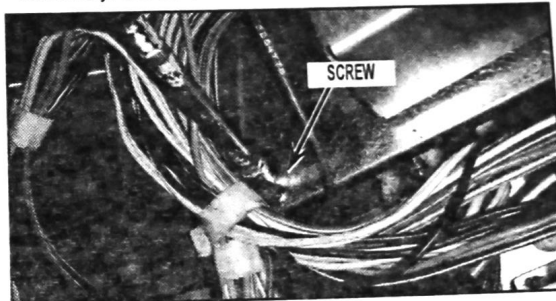

FIGURE 5
7. Remove the screw securing the ground wire for the old HV assembly. Set screw aside. See Figure 5.